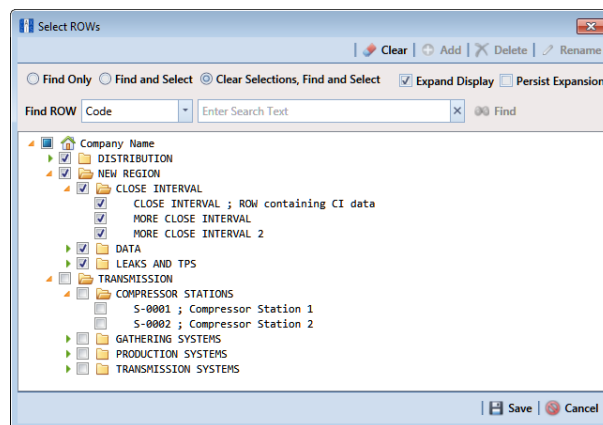

Figure 7-69. Select ROWs
- 1 Click the **Select ROWs** button  to open the *Select ROWs* window (Figure 7-69). Select the pipeline segment(s) with the facilities you want to work with, then click  **Save** to close the window.